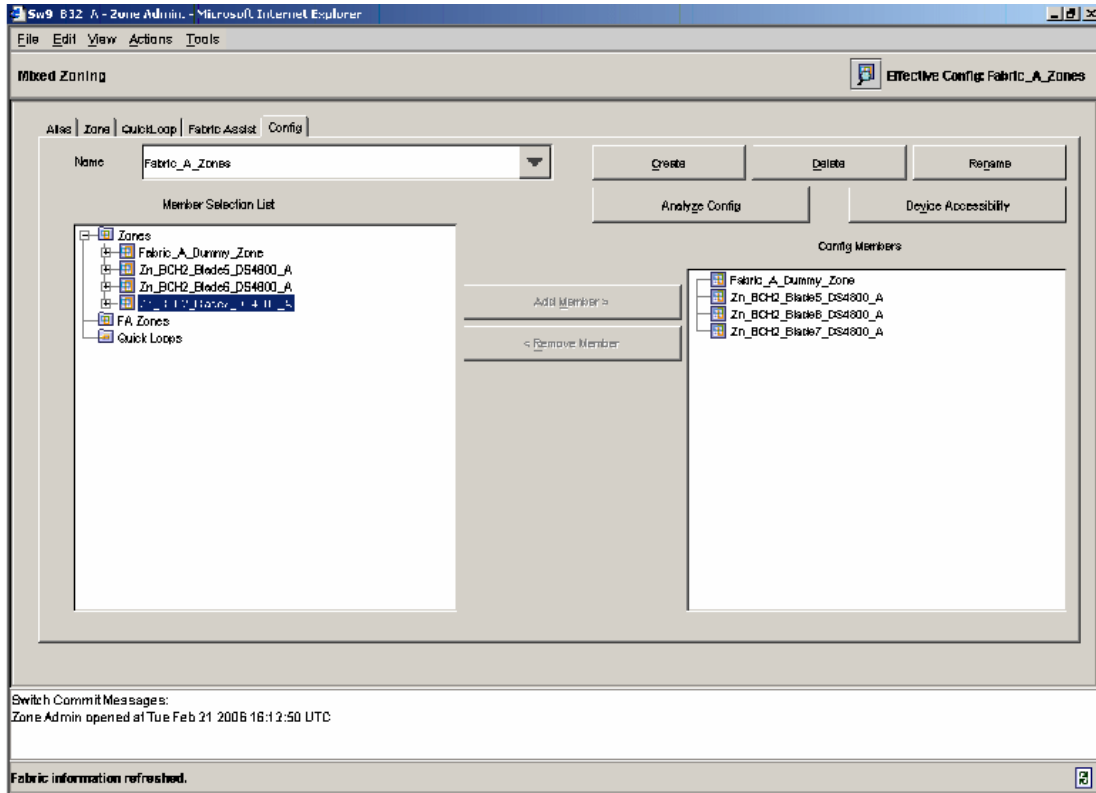

Figure 5-62 Adding members to a zone config
2. Highlight and add the server blade zones to the config (see Figure 5-62).